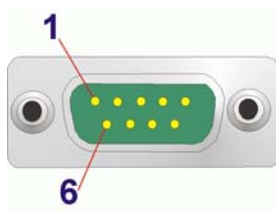

Figure 3-23: COM1 Pinout Locations
- CN Pinouts:** See **Table 3-24** and **Figure 3-23**